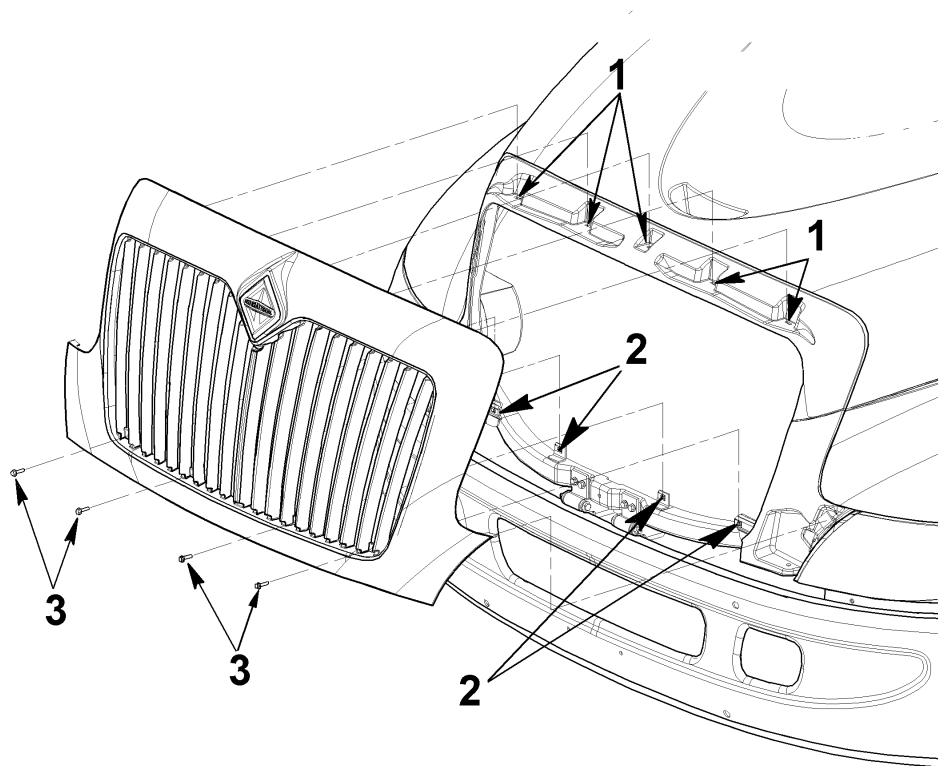

Figure 1 Grille Installation
1. Remove the four grille mounting bolts (Figure 1, Item 3).
2. Remove grille by lifting the grille up and outward from the mounting tabs (Figure 1, Item 1). Set the grille aside for re-installation.
3. Enlarge the lower grille mounting holes (Figure 1, Item 2) to 0.5 inch diameter.